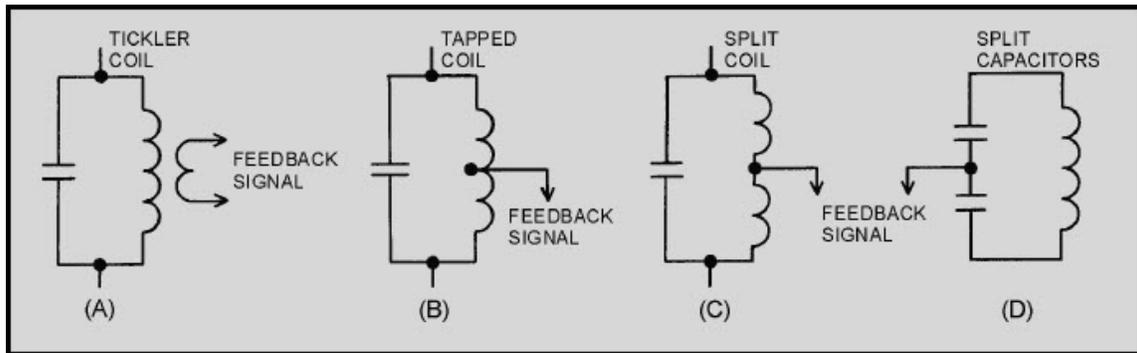

Figure 2-7 Feedback signals
Chapter 1 described the resonant or tank circuit and how a sinusoidal signal is generated by the action of an inductor and a capacitor. The feedback signal is coupled from this circuit by either of two means. The first method is to take some of the energy from the inductor. This can be done by any one of the three ways shown in figure 2-7, views (A), (B), and (C). When an oscillator uses a TICKLER COIL, as shown in view (A), it is referred to as an ARMSTRONG OSCILLATOR. When an oscillator uses a tapped coil (view (B)) or a split coil (view (C)), it is referred to as a HARTLEY OSCILLATOR. The second method of coupling the feedback signal is to use two capacitors in the tank circuit and tap the feedback signal between them. This is shown in view (D). An oscillator using this method is referred to as a COLPITTS OSCILLATOR. Each of these particular oscillators is named after the person who originally designed them.